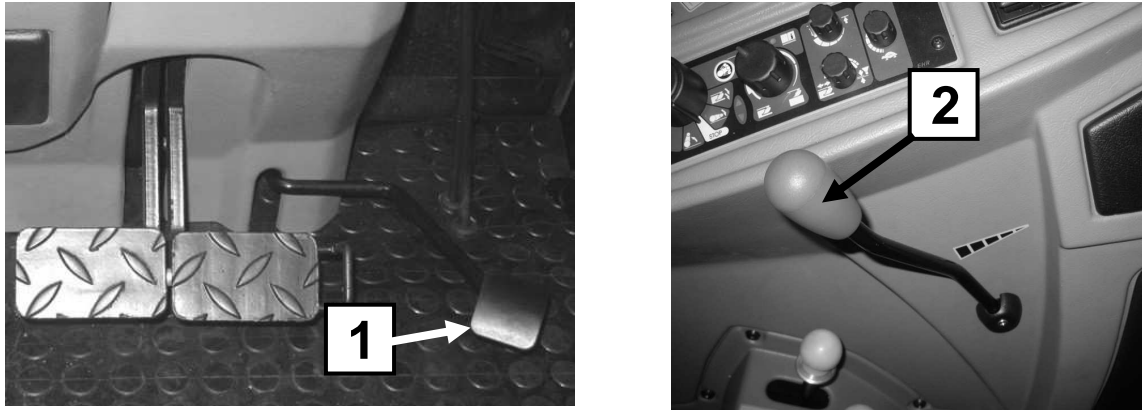

Figure 4-15a Control of engine RPM speed of **PRONAR 6170 tractor**. 1 – accelerator pedal; 2 – accelerator lever;
- accelerator pedal (item 1; Figure 4-15a)
- accelerator hand lever (item 2; Figure 4-15a)